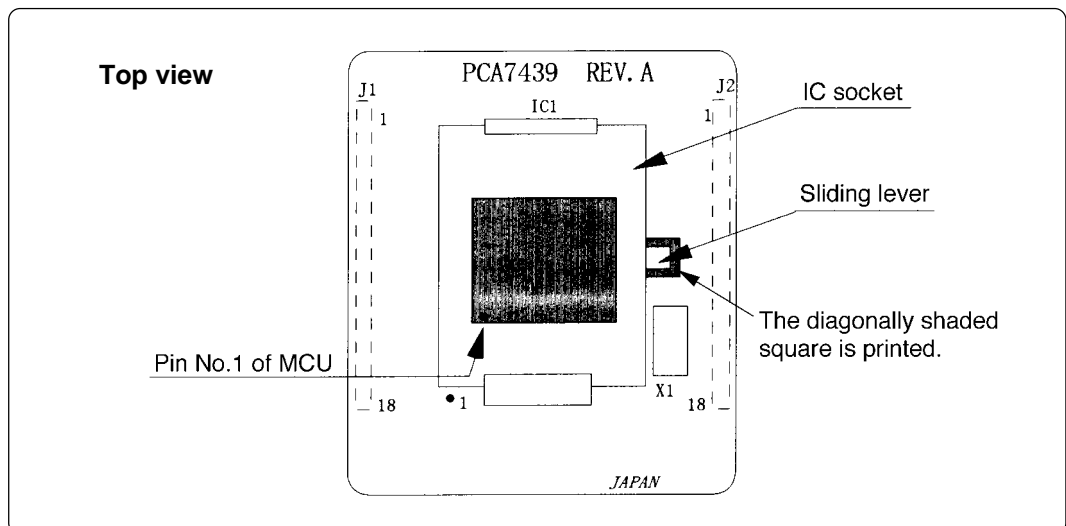

Figure 4.2 Inserting the MCU
- (1) As shown in Figure 4.2, set the sliding lever to the right (the diagonally shaded square is printed on the board).
- (2) As shown in Figure 4.2, insert the MCU into the IC socket, with the pin No. 1 of the MCU matched to the pin No. 1 of the IC socket on the PCA7439.